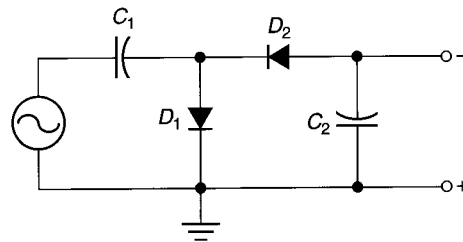

FIGURE 4.51
43. Figure 4.51 shows a half-wave voltage doubler with the diodes and capacitors reversed. Analyze the circuit, and show that it provides a *negative* dc output that is approximately twice the peak input voltage.